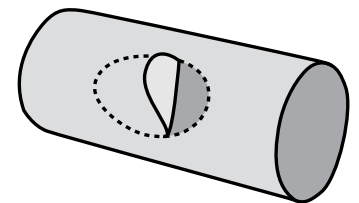

FIG. 19c
- Cut out the shape that you drew and peel the sheet metal back as you cut [FIG. 19c].